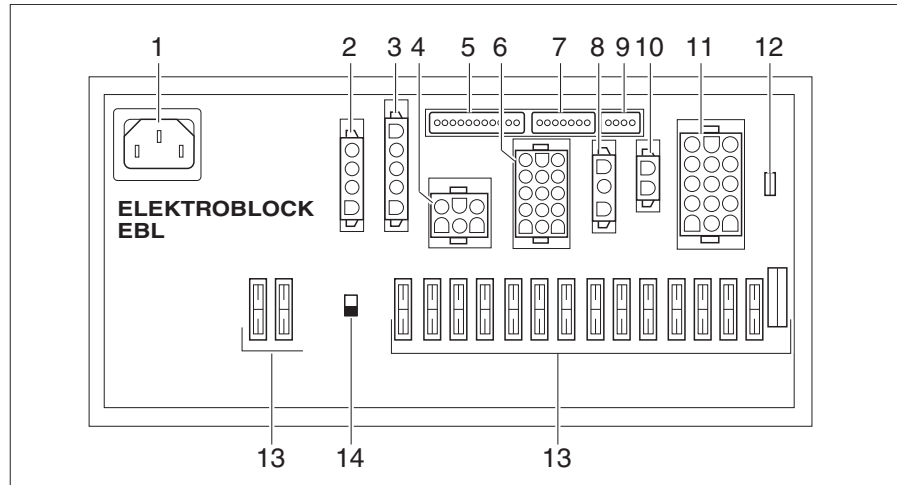

Fig. 242 Transformer/rectifier (EBL 102)
Location Depending on the model, the transformer/rectifier (Fig. 242) is installed in the seat console under the driver's seat or in the garage or bar seating group (Globeline).
- ▷ The battery cut-off switch (Fig. 242,14) disconnects all the appliances that are connected to the transformer/rectifier from the 12 V network.